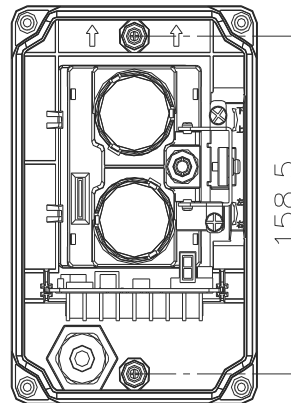

Figure 5: Beam Detector
4. Fix the detector base onto the bracket using two M4x12x10 screw. Refer to Figure 5.